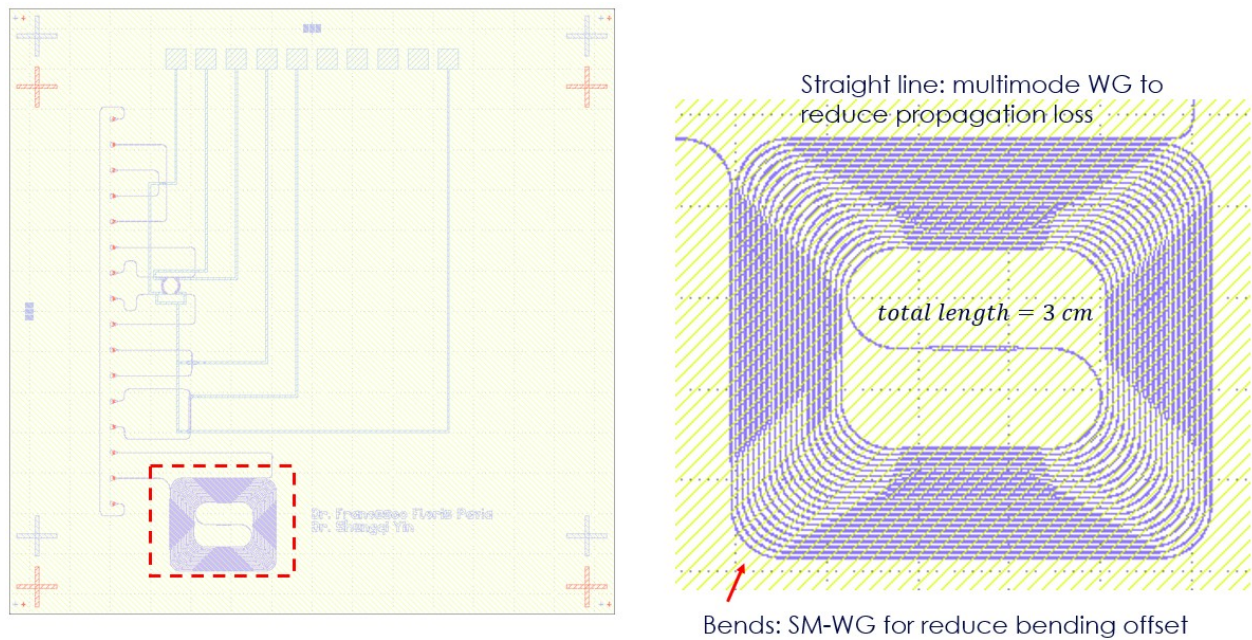

Figure 7. Spiral waveguides
As shown in Fig. 7, the straight part of the waveguides are multi-mode (MM) waveguides, with a width of  $2.5\text{ }\mu\text{m}$ , whilst the waveguide bend has to be single-mode (SM) to avoid mode crosstalk in the bend. They are connected using a waveguide tapers. From one grating coupler to the other, the delay line has a total waveguide length of 3 cm and can be used for measuring the propagation loss using the cutback method.